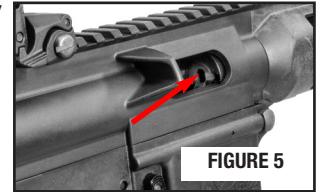

FIGURE 5
- Verify that the chamber is empty (FIGURE 5) and the firearm is unloaded.